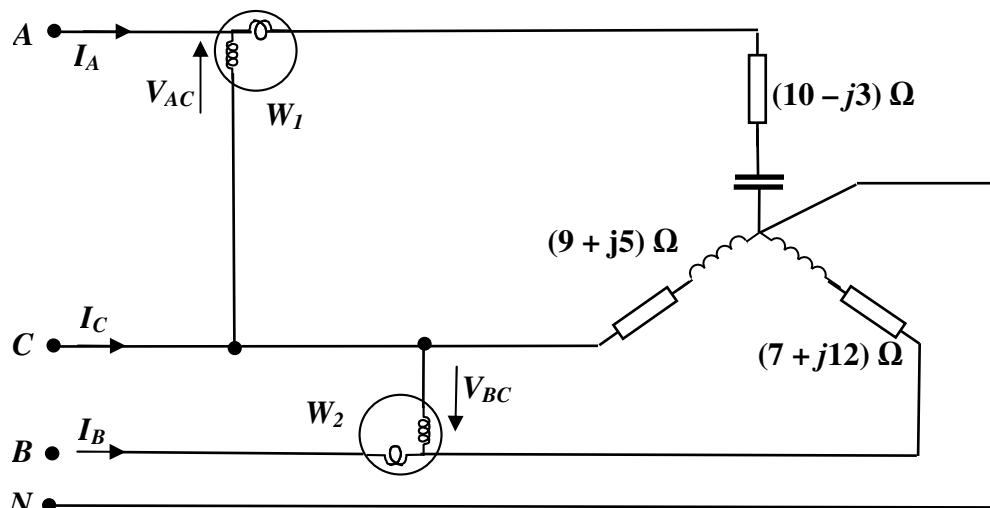

Figure 3.1
A star-connected load is supplied via a balanced 400V, 3-phase, 4-wire supply of phase sequence ABC . The 3-phase load consists of three single phase loads of $(10 - j3)\Omega$, $(7 + j12)\Omega$ and $(9 + j5)\Omega$, connected between lines A, B, C , and the neutral respectively as shown in Figure 3.1. All the supply lines and the neutral wire have negligible impedance.
- a. Calculate the magnitude and phase of the three line currents and the neutral current. State which voltage you have taken as reference. (2)
- b. Two wattmeters are installed to measure the total input power to the load. One is connected with its current coil in line A and its voltage coil between lines A and C, the other with its current coil in line B and voltage coil between lines B and C, as illustrated in Figure 3.1.
- (i) Sketch a phasor diagram showing the voltages and currents which are measured by the two wattmeters and their respective phase angles. (3)
- (ii) Hence, calculate the readings on the two wattmeters and the sum of the two wattmeter readings. (2)
- (iii) What percentage error, if any, would be incurred if it was assumed that the sum of the two wattmeter readings gave the total input power to the system? (2)
- (iv) Briefly describe a more appropriate method of measuring the total 3-phase power. (1)
- (i) Using a star-delta transformation or otherwise calculate the three line currents and the voltage across each phase for this condition. State which voltage you have taken as reference. (7)
- (ii) Hence, calculate the readings on the two wattmeters. (2)
- (iii) Verify that the sum of the power readings on the two wattmeters measures the true power dissipated in the unbalanced three-phase load. (1)
- a. Write down the circuit equations of a synchronous machine (for operation as both a motor and a generator) and use them to derive phasor diagrams for the machine operating as a generator on leading power-factor and as a motor on lagging power-factor. (3)